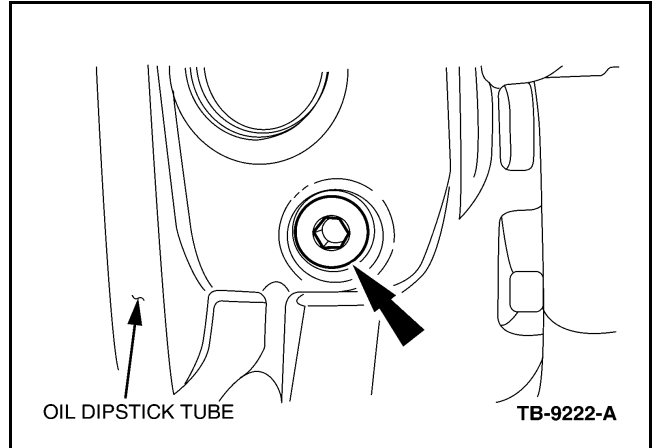

Figure 9 - Article 10-7-5
11. Remove the left hand (LH) cylinder block drain plug and drain the cylinder block. (Figure 9)